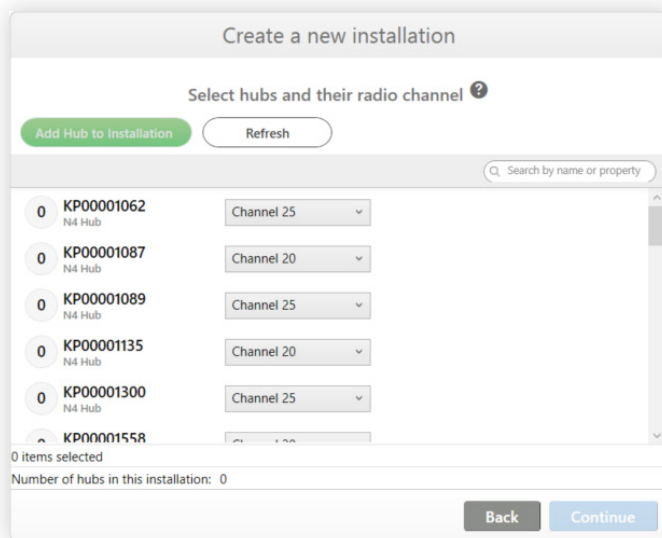

fig. 15
- 8 **Select an N4 from the list.** See fig. 15. Selecting an N4 will cause it to identify itself by flashing its indicator lights, so you can tell which hub you're addressing.